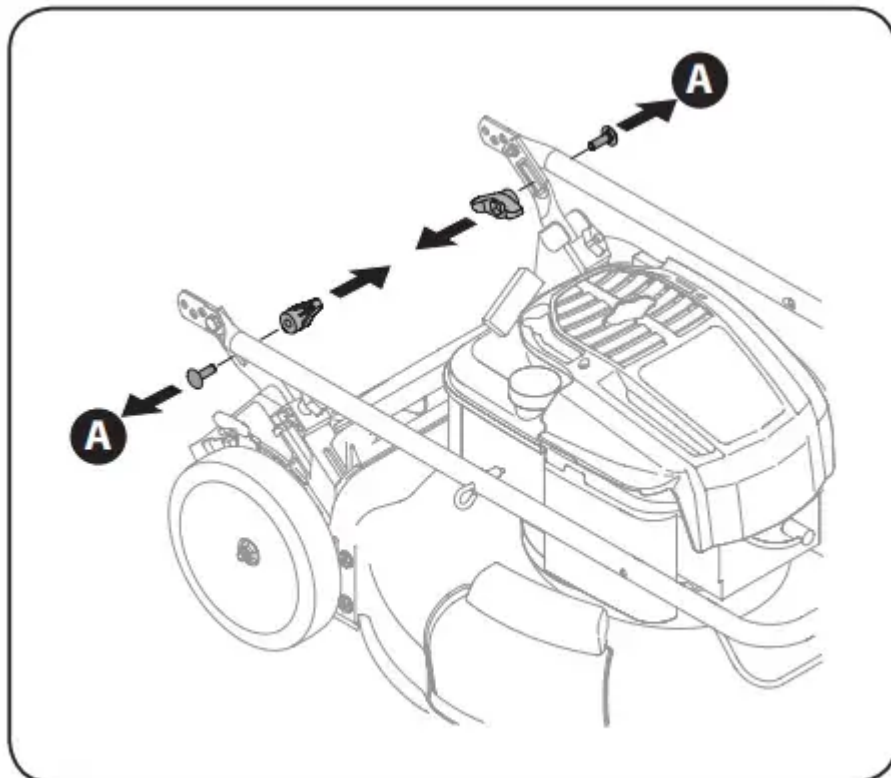

Figure 3-1
1. Remove wing nuts and carriage bolts from handle as shown in Fig. 3-1. Do not loosen or remove adjacent hex head screws.